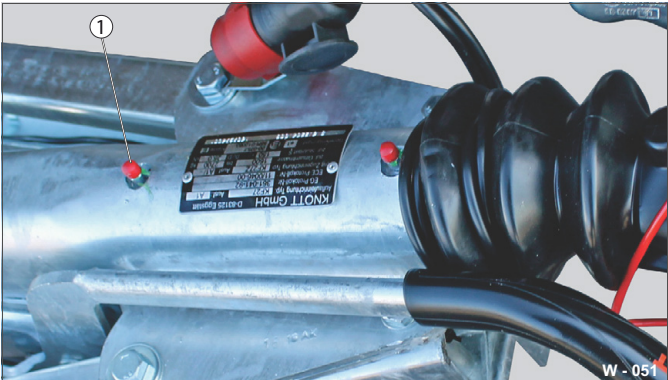

Fig. 40 Prepare grease nipple
- If necessary, remove the cap (Fig. 40 /1) from the grease nipples.